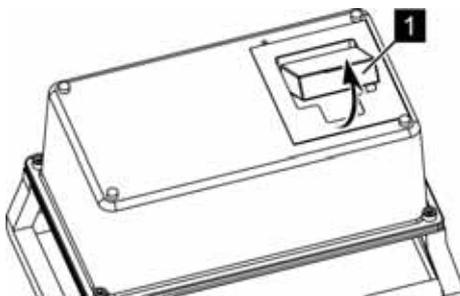

Fig. 79: Battery
2. ➤ Remove the empty battery (Fig. 79/1) on the back side of the radio control.